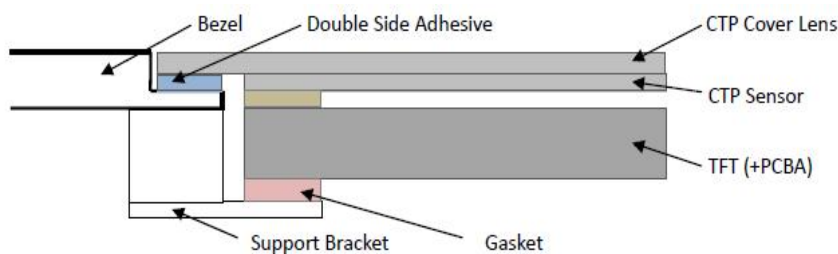

Figure 1
9.1 Surface Mounting (Figure 1)
9.1 嵌入安装（附图 1）